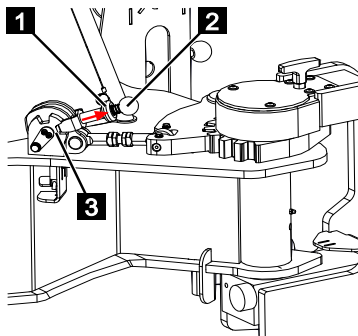

Fig. 127
5. Using your other hand, pull the locking device (Fig.127/1) upwards in the direction of the arrow and push the locking lever (Fig.127/2) down fully.
6. Let go of locking device (Fig.127/1).
7. Ensure that the locking lever (Fig.127/2) is all the way down and the locking device is engaged in the lowest position (Fig.127/3).